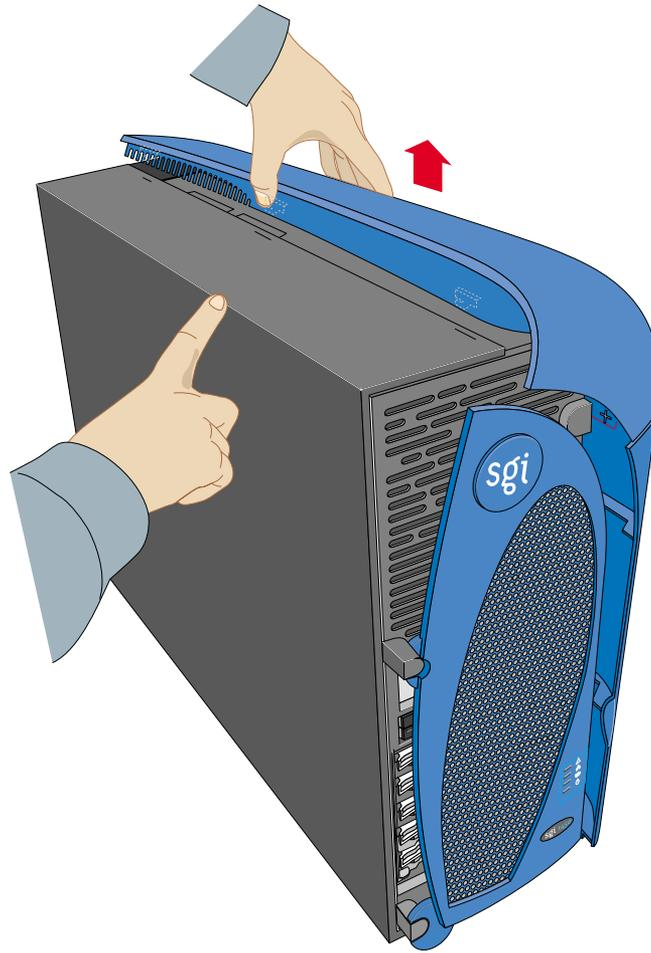

Figure 14 Removing Side Cover
2. Lift the three top cover latches up and away from the chassis, as shown in Figure 14.